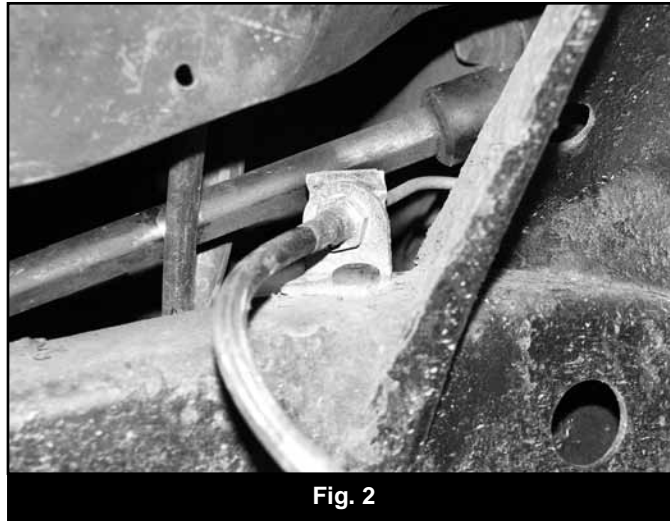

Fig. 2
12. Install the new brake line mounting bracket to the new hose and then attach the hose to the steel line at the frame. Attach the bracket to the frame in the original brake line mounting position with the OE bolt. Torque bolt to 18 ft-lbs. (Fig. 2)